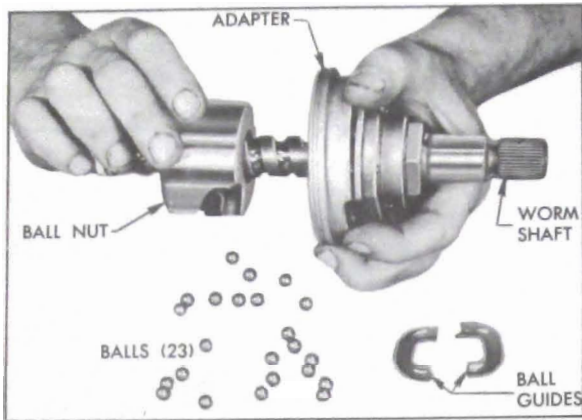

Figure 8-26—Removing Balls from Ball Nut
2. Remove the ball return guide caps and ball return guides. Turn the nut with the ball return guide holes down. Rotate the worm back and forth until all the balls have dropped out of the nut. Catch the balls in a clean pan or cloth. Remove the ball nut and the adapter from the worm. Remove thrust bearing centering springs from the adapter. See Figure 8-26.